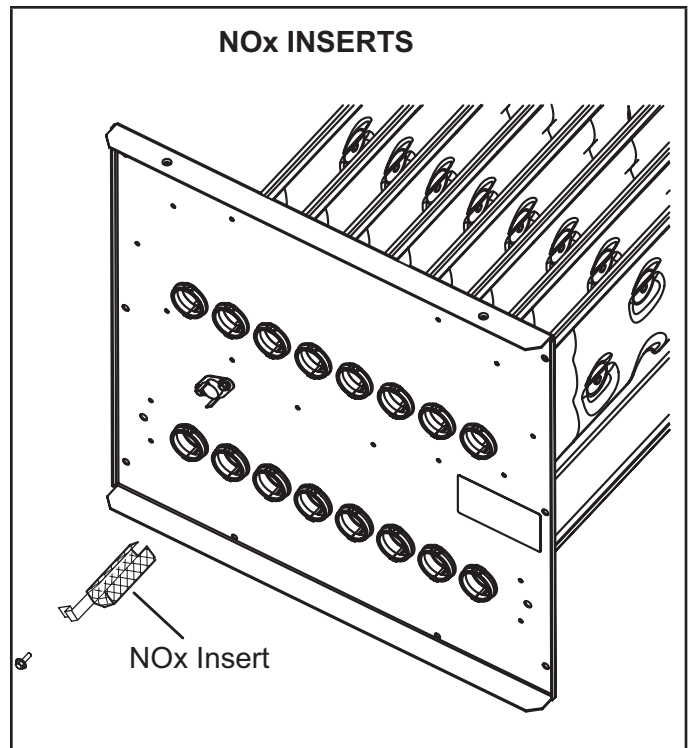

FIGURE 26
- 7 - **NOx units only** - Remove screw securing NOX insert. Remove NOX insert. See figure 26.